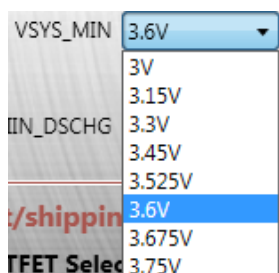

Figure 15: V_{SYS_MIN} Setting
13. Set the V_{SYS_MIN} voltage threshold (see Figure 15). Its range is 3V to 3.75V, and the default value is 3.6V.